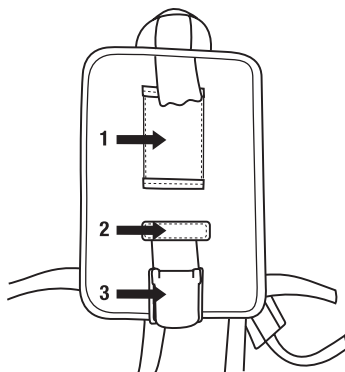

Fig. 11b
1. With either end of the motor/blower towards the top of the back pack (end with the loop handle), thread the backpack strap through the top retaining slot on the motor/blower and the large retaining sleeve (Fig. 11b-1) on the back pack.
2. Thread the strap through the lower retaining slot on the motor/blower and the small retaining sleeve (Fig. 11b-2) on the back pack.
3. Thread the strap through the buckle (Fig. 11b-3) and tighten down.